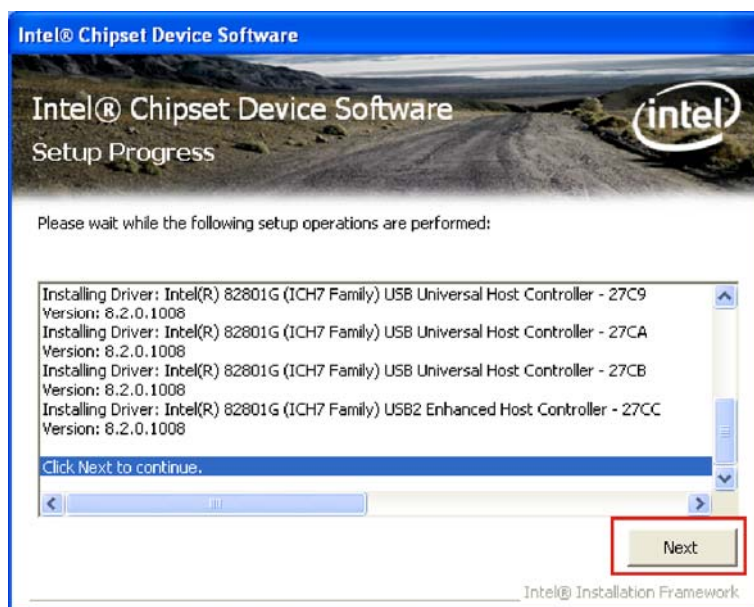

Figure 7-4: Chipset Driver Setup Operations
Step 12: **Setup Operations** are performed as shown in Figure 7-4.